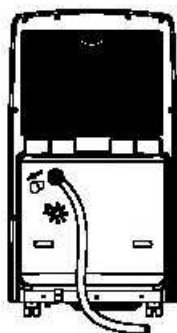

Fig.15
- Remove drain plug from back of unit. Attach drain hose to the opening. Direct other end of hose directly over drain area. (Fig.15)